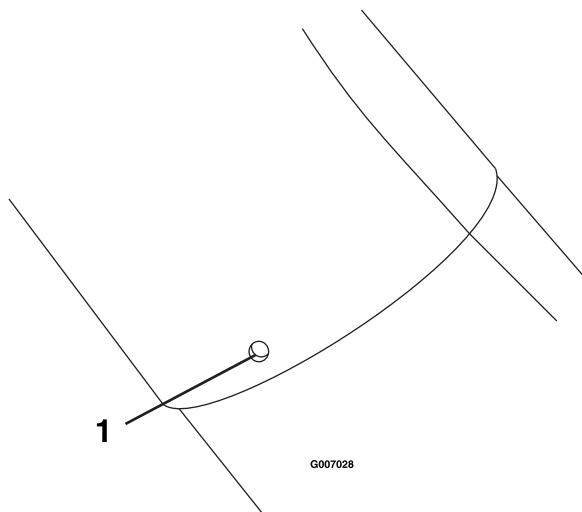

Figure 15
19. If the lower tube is replaced, drill three 1/4 inch holes in the lower tube using the upper tube holes as reference (see Figure 15). Make sure that the upper and the lower ends are oriented properly